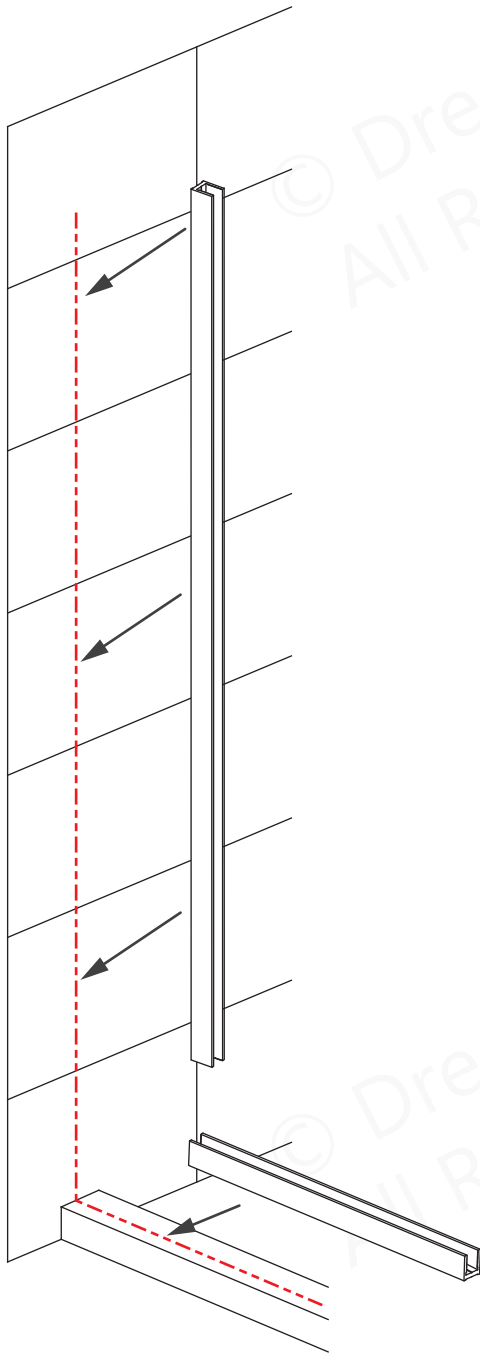

Fig 3
3. Position the U-Channels onto the centerlines to mark the holes for drilling. **(Fig 3)**